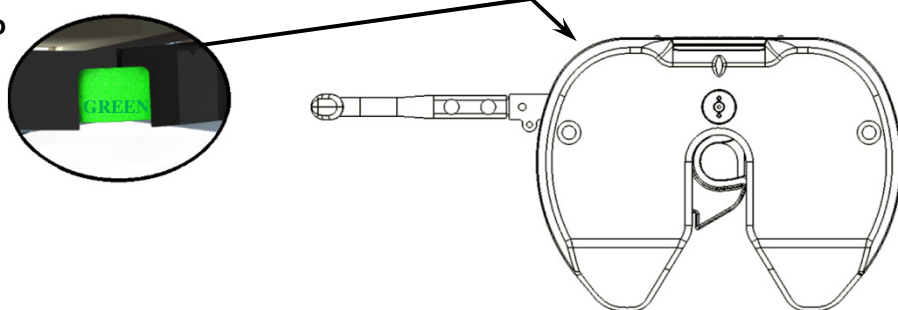

FIG. 11
- 2) Back truck slowly into trailer so the trailer king pin and 5th wheel funnel align. Hitch will latch automatically when truck is backed completely into trailer king pin. When this occurs, the indicator will be 100% green (pg. 4, fig. 11).*